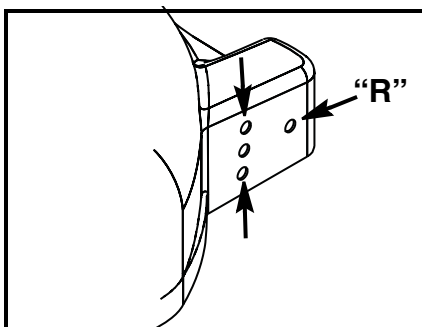

FIGURE 2
9. Position the new LH Handle Bracket /Height Adjuster Assembly, Item 1, onto the left rear side of the mower deck. Ensure that the 3 tabs on the Handle Bracket are set within the holes shown in Figure 2.